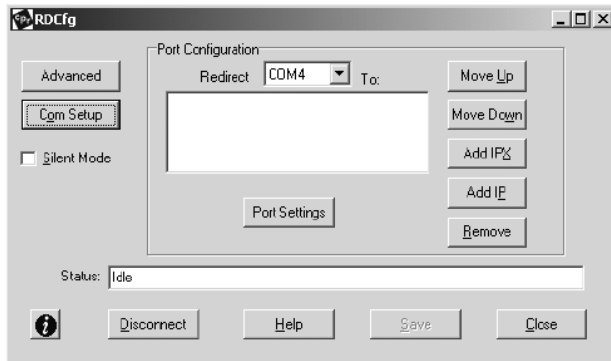

Figure 22: Com Port Redirector Configuration Window
- Click the **Start** button in the Windows Taskbar, point to **Programs**, point to **Lantronix Redirector**, and click **Configuration**. The Com Port Redirector Configuration window appears (see Figure 22).
1. Click the **Start** button in the Windows Taskbar, point to **Programs**, point to **Lantronix Redirector**, and click **Configuration**. The Com Port Redirector Configuration window appears (see Figure 22).
10. Click the **Save** button (see Figure 22).
11. Click the **Close** button (see Figure 22).